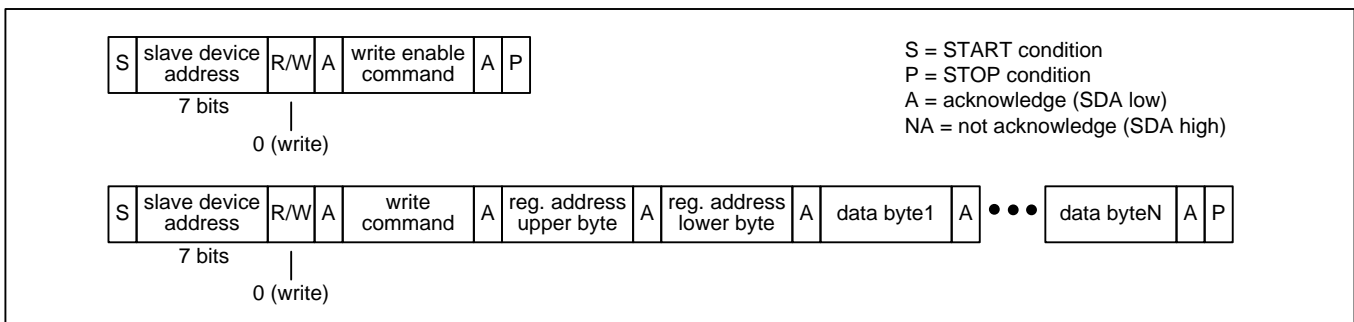

Figure 12 – I2C EEPROM Write Transaction Functional Timing (ZL30251 Only)
**EEPROM Writes (ZL30251 Only).** The EEPROM memory is accessible when `EESEL=1`. The bus master first does an I2C write to transmit the SPI Write Enable command (see Table 3) to the device. The bus master then does an I2C write to transmit data to the device as described in the Register Write Transactions paragraph above. See Figure 12.